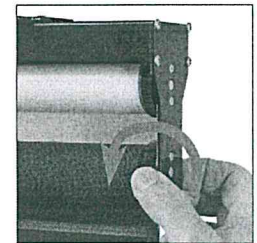

Fig. 7
- Turn the opposite way to raise the stopping point. (Fig. 7)